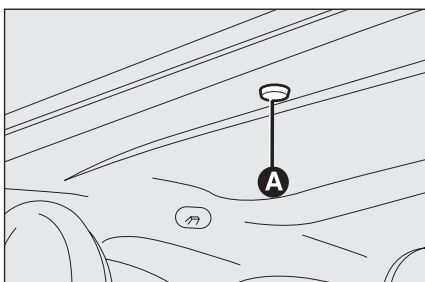

fig. 45
- Remove the protective cap **A**-fig. 45 located on the internal covering, behind the sun visor;